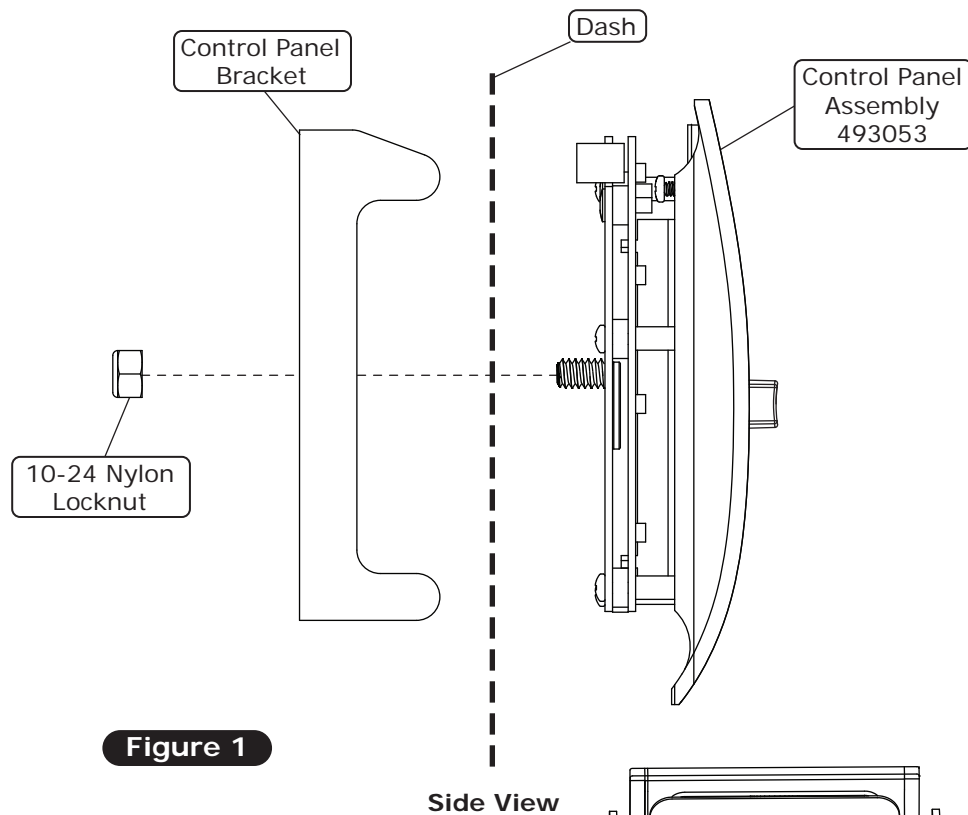

Figure 1
5. Install the control panel into the dash by placing the control panel bracket behind the dash and securing it to the control panel assembly using a 10-24 nylon locknut (See Figure 1, below).